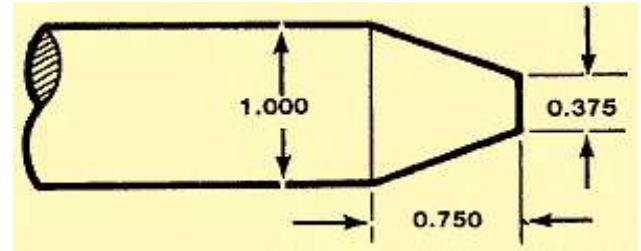

Figure 7-62. Taper problem.
upon its slide. The compound rest base is graduated in degrees and can be set at the required angle for taper turning or boring. The angle of the taper with the centerline is one-half the included angle and will be the angle the compound rest is set for. For example, to true up a lathe center which has an included angle of 60°, the compound rest would be set at 30° from parallel to the ways. (Figure 7-62).
**Example:** The compound rest setting for the workpiece shown in Figure 7-62, would be calculated with these two formulas:
Using a handheld calculator, you will see that,  $\tan (0.41650) = 22^\circ 37'$ . Then, to machine the taper shown in Figure 7-62, the compound rest will be set at  $22^\circ 37'$ .